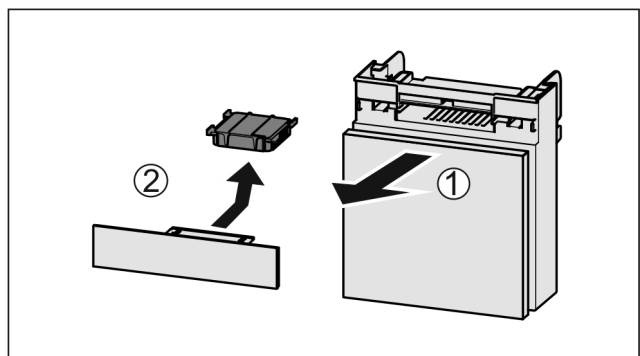

Fig. 98
- ▶ Pull out the compartment Fig. 98 (1).
- ▶ Remove the carbon filter Fig. 98 (2).